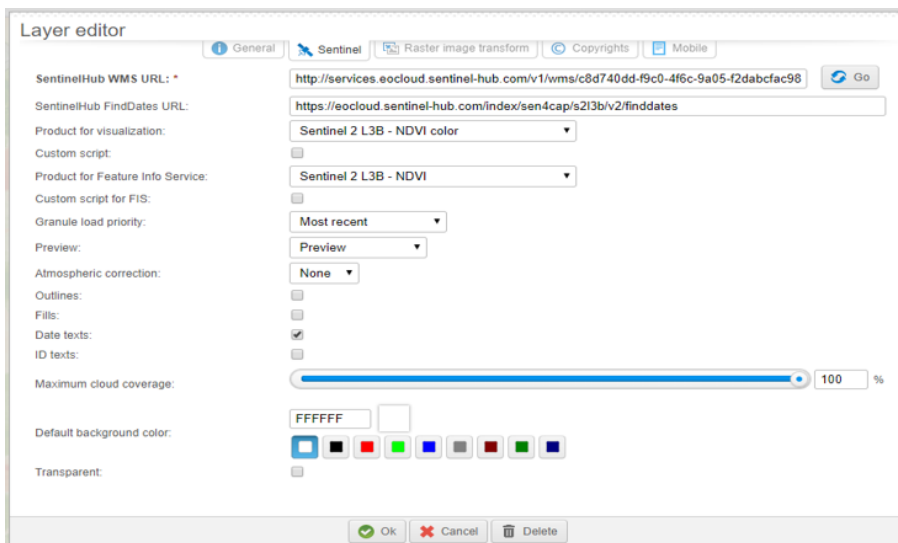

Figure 6-8. Settings for the Sentinel 2 L3A – NDVI layer
- **S2 L3A – NDVI** (Figure 6-8)